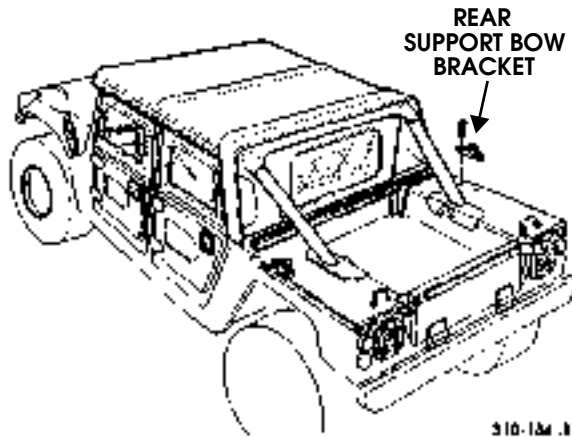

Figure 10-115: Rear Support Bow Bracket Replacement
2. Remove two screws and support bow bracket from body (Figure 10-115).
1. Secure bracket to body with two screws (Figure 10-115).